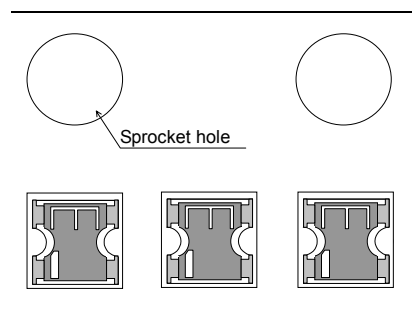

Figure-4
- 9). The direction of attenuator shall be taped as Figure-4.